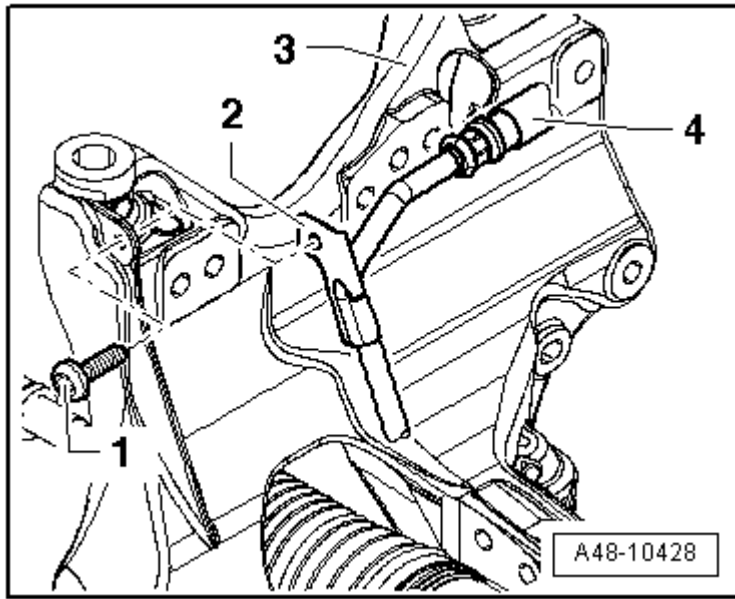

Fig. 37: Return Line To Subframe
9. Return line to the subframe, refer to **Fig. 37**